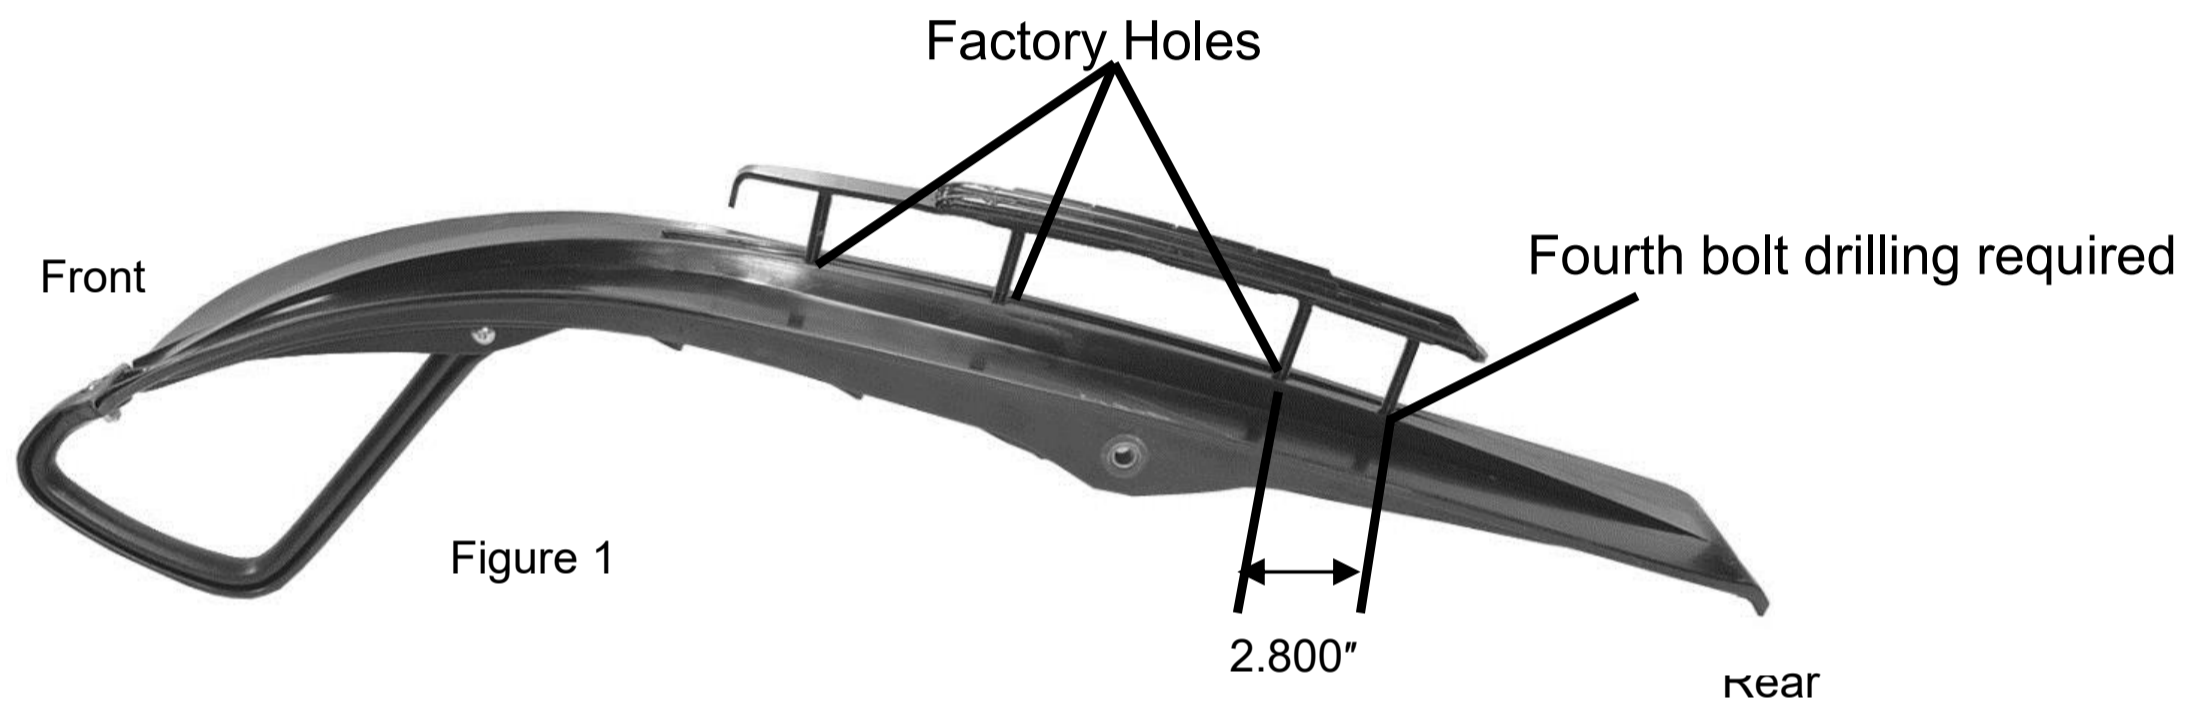
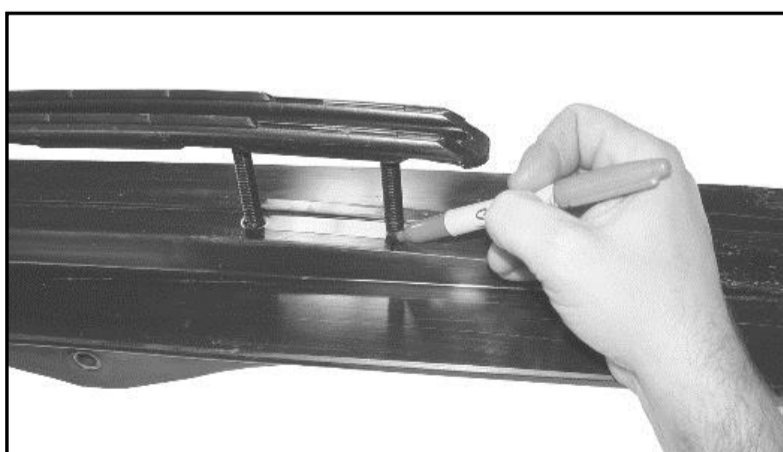
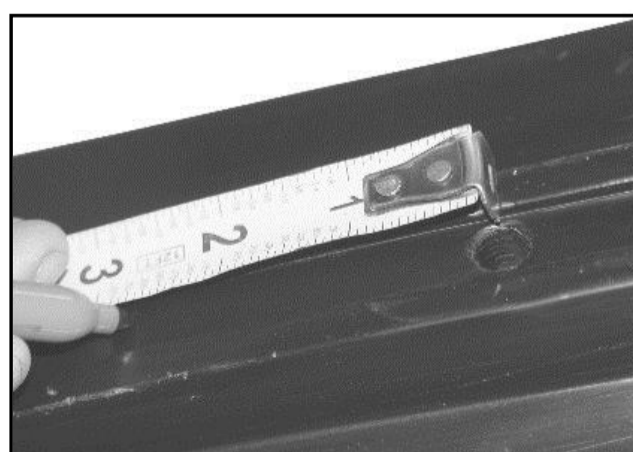

Figure 1
Figure 2
Figure 3
- 1) Place the 9975 series runner in the 3 bolt holes on the bottom of the ski. The fourth bolt will contact the ski at the point where the additional bolt hole will need to be drilled. (Figure 1) At this point using a marker place a mark on the keel at the center of the fourth bolt. (Figure 2) Or you can measure from the center of the bolt nearest the rear of the ski 2.800" to determine the new bolt hole placement. (Figure 3)